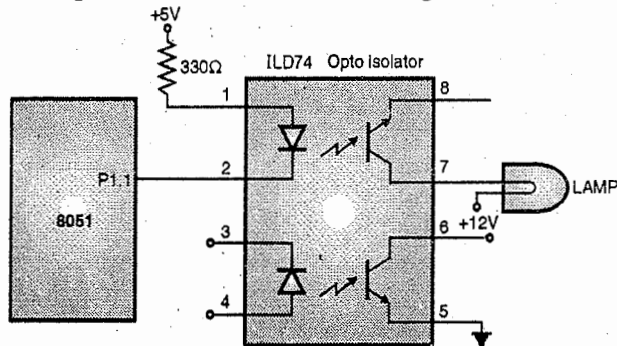

Fig. 3.8.1 : Internal structure of opto-isolator and its interfacing with 8051
- The solid state relay has an opto-isolator at its input as shown the Fig. 3.8.1.
- Fig. 3.8.1 illustrates internal structure of an opto-isolator and its interfacing with 8051.